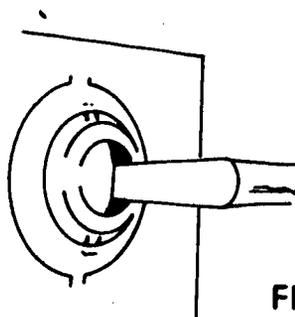

FIGURE 2
2. Place screwdriver on KO at point opposite unstamped piece (Figure 2)